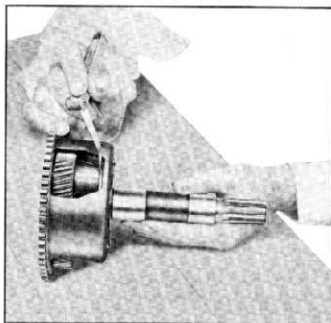

Fig. 111—Checking Planet Gear End Clearance
4. Check end clearance of planet gears. This clearance should be .006"-.030" (fig. 111).
23. Check end clearance of planet gears. This clearance should be .006"-.030" (fig. 111).